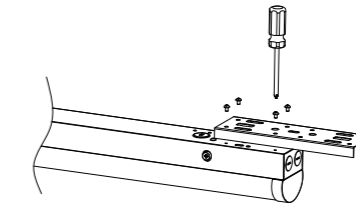

Figure 9
- Step 1. Use the screws in the accessory kit to lock the bracket onto one fixture (figure 9)